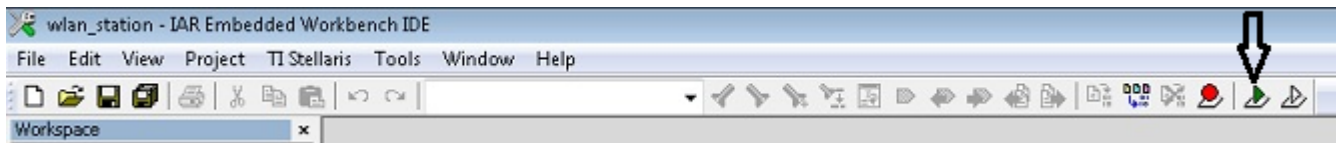

Figure 23. Debug Icon
7. Click the debug icon as shown in Figure 23 to download code to the device and start debugging. Select Debug>Go from the menu or press F5 to begin execution.